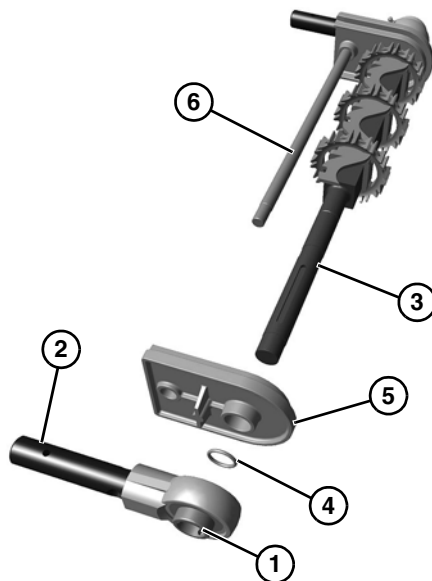

Figure 55
7. Use a hex wrench to loosen two set screws (**Figure 55, item 1**) on the bearing shaft assembly.
8. Slide the bearing shaft assembly (**Figure 55, item 2**) off the drive spindle (**Figure 55, item 3**).
*When removing tracking plate, be certain not to lose O-ring (**Figure 55, item 4**).*
9. Slide the tracking plate (**Figure 55, item 5**) off the drive spindle.
10. Remove pinch guard shaft (**Figure 55, item 6**).